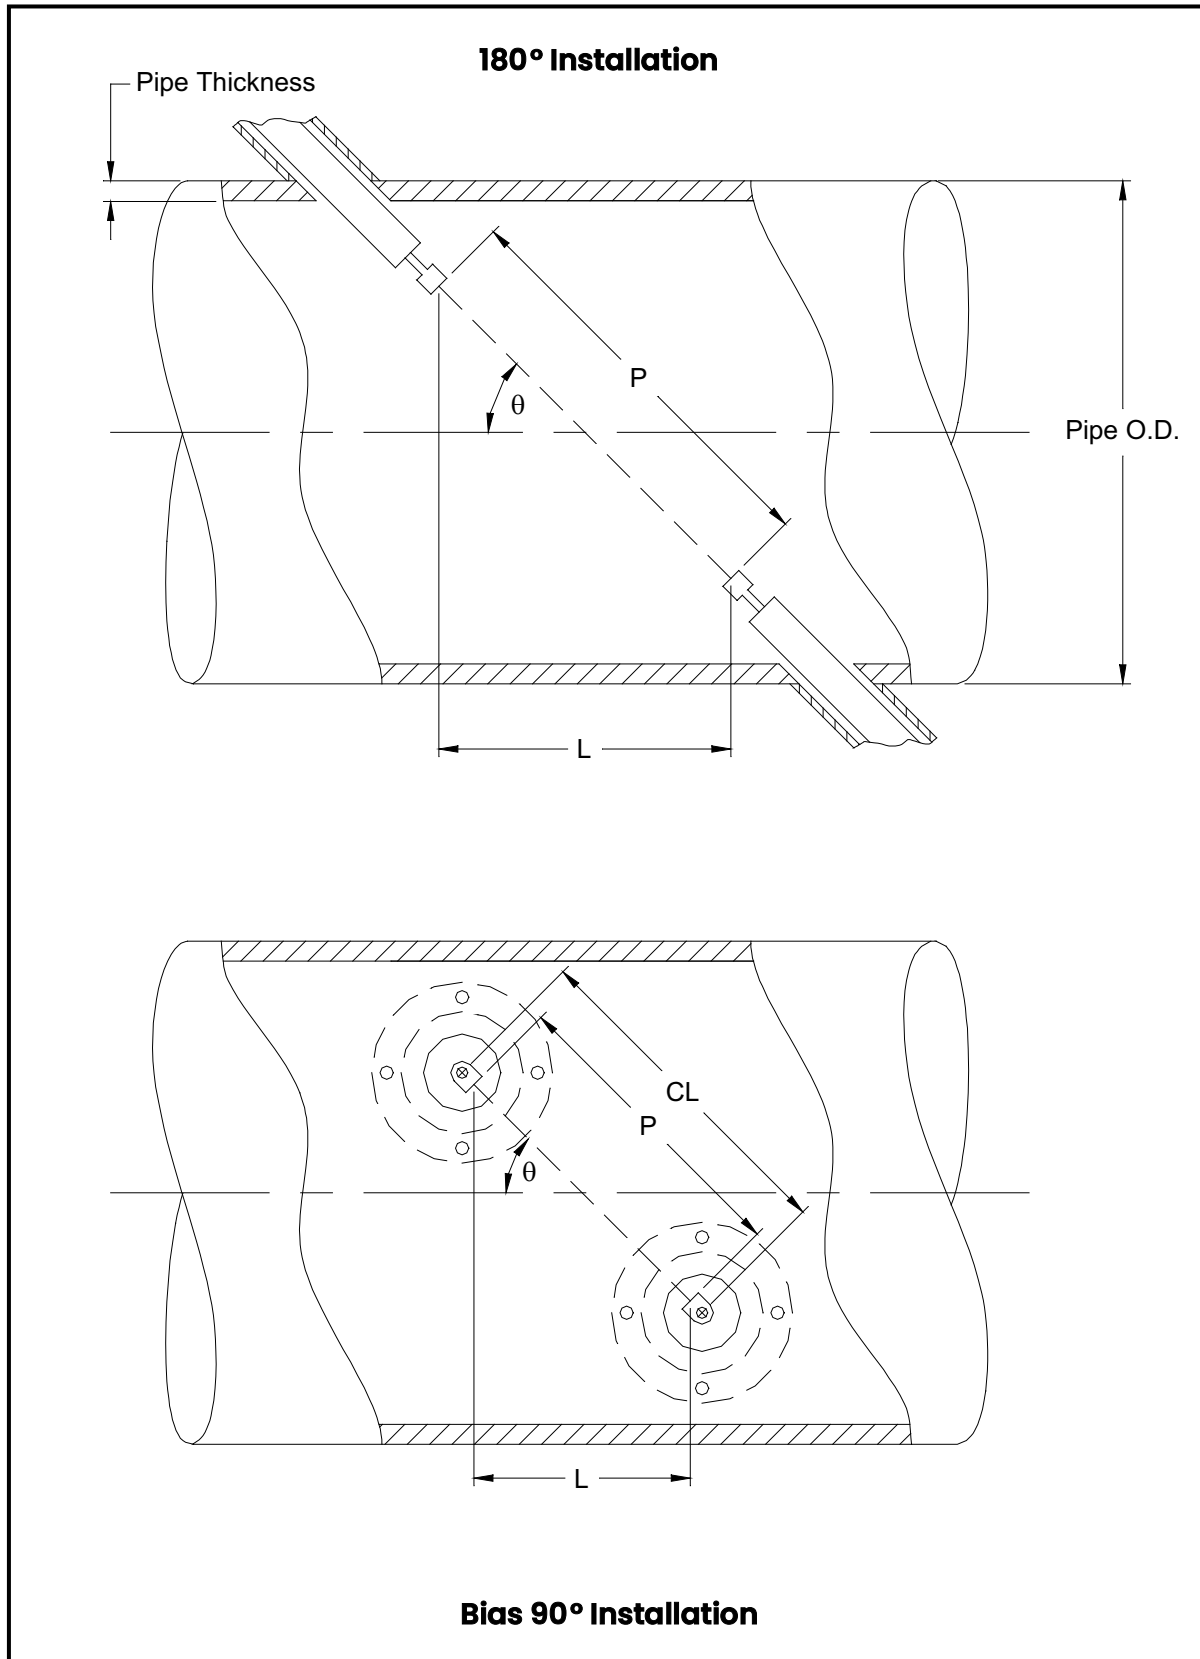

Figure 18: Top View of Transducer Installations
The accuracy of the programmed P and L values is critical to precise flow rate measurements. If the factory supplies the flowcell for the system, the correct values will be included in the documentation supplied with the unit. For transducers installed on an existing pipe (see *Figure 18 on page 56*), P and L must be measured at the site. This appendix provides instructions for properly determining these dimensions.
Whenever possible, physically measure the face-to-face distance (P) and the axial distance (L) between the centers of the flat faces of the transducers. Refer to *Figure 18 on page 56* for an illustration of the proper distances to measure in a typical installation.
With a Bias 90° transducer installation, it sometimes happens that the only known parameters are the transducer angle (θ) and the centerline distance between the transducer bodies (CL). In these cases, it is still possible to calculate P and L by combining Equation D-1 above with the additional Equation D-2 below (see *Figure 18 on page 56*):